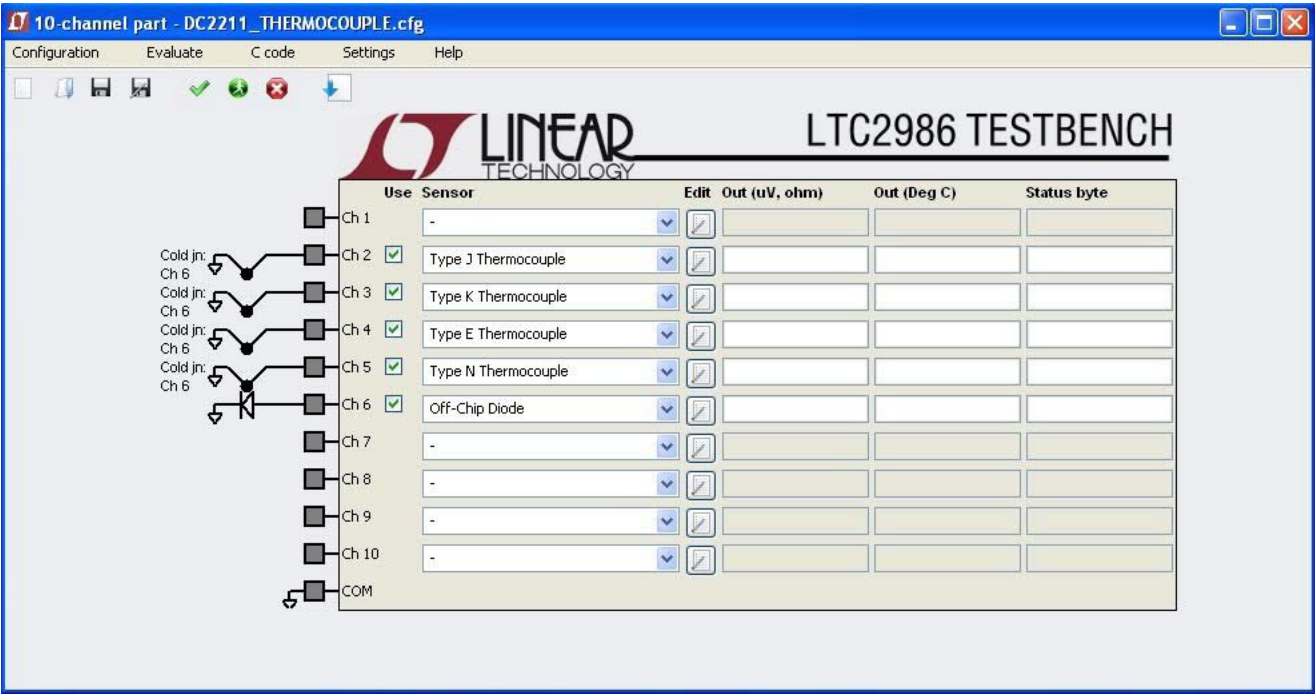

Figure 8a. DC2211 Four Thermocouple Software Configuration
- Four thermocouples connected to positions A-D with the negative connections tied to positions E-H using the on-board diode as cold junction sensor (see Figure 7a for the schematic and Figure 8a for the corresponding software configuration).